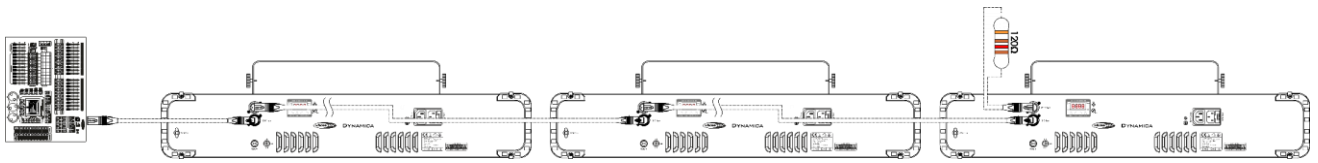

Fig. 06
- 04) Link the units as shown in Fig. 06. Connect the first unit's DMX "out" socket with the second unit's "in" socket, using a DMX-signal cable. Repeat this process to link the second and third units.